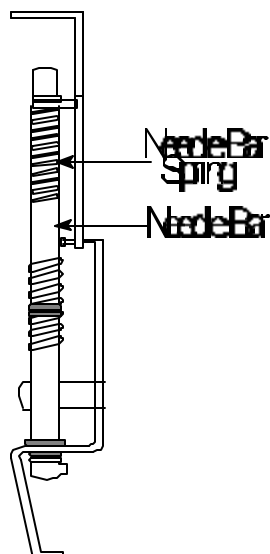

Figure 8
20. **Replace** Needle Bar Spring onto shaft of Needle Bar. See *Figure 8*.